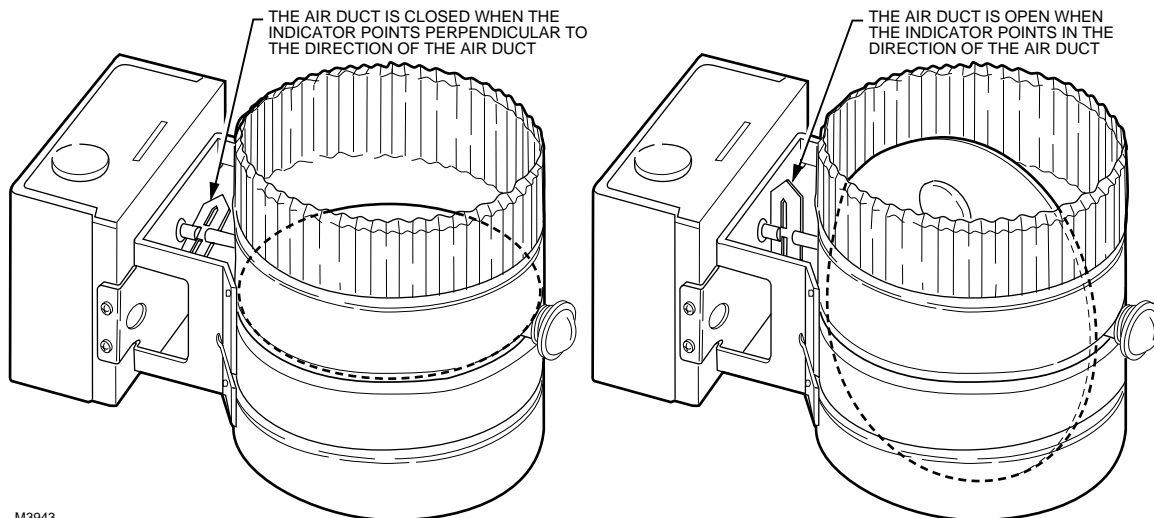

Fig. 6. Determining damper position.
- Check that the M896 Damper Actuator opens the damper before the gas valve opens and the pilot or main burner ignites. See Fig. 6.
3. Check that the damper remains in the closed position. See Fig. 6.